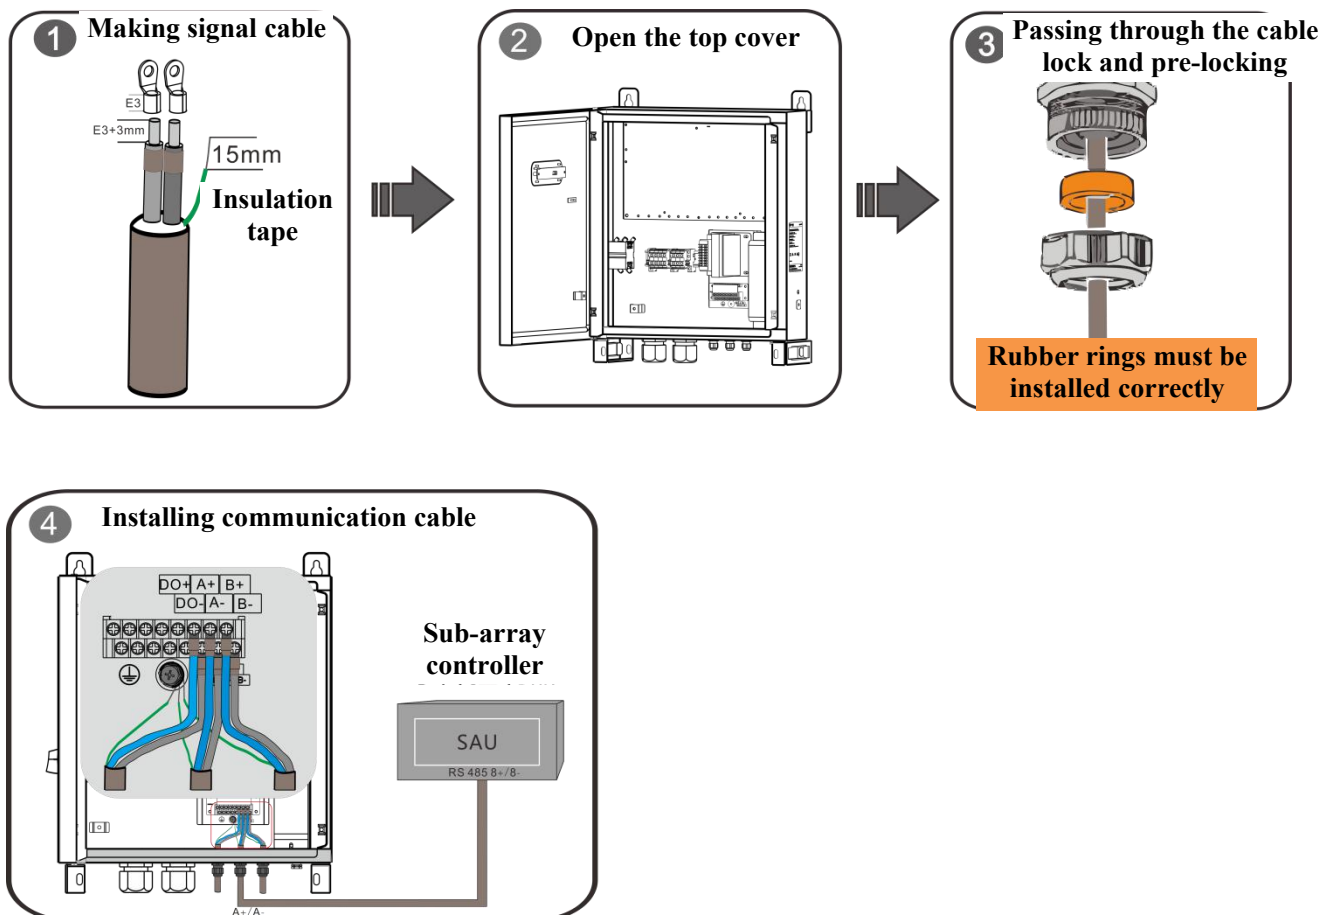

Figure 3-4 Schematic Diagram of Communication Cable Installation
- (1) Remove the lock head of communication cable and the tail plug;
- (2) Pass the communication cable through the cable lock;
- (3) Use wire stripping pliers to strip off the insulation and protective layer of the cable as shown in Figure 3-4- ①; select an OT terminal with a suitable size to make a communication cable. The shielding layer needs to be wrapped with insulating tape, and the end is reserved with 15mm for fixing screws;
- (4) There is a 6-bit terminal row on the communication board near the machine inlet, which is marked
with DO+/DO-, A+/A-, B+/B- from left to right (as shown in Figure 3-4);